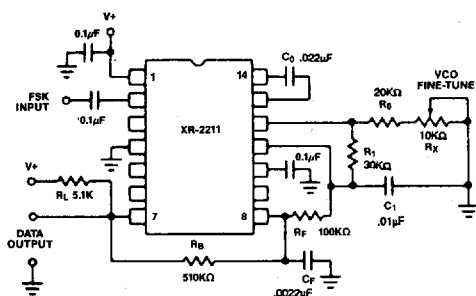

Figure 9. Circuit Connection for FSK Decoding of Caller Identification Signals (Bell 202 Format)
**VCO Frequency Adjustment:** VCO can be fine-tuned by connecting a potentiometer,  $R_X$ , in series with  $R_0$  at Pin 12 (see Figure 9).
Figure 9 shows the basic circuit connection for FSK decoding. With reference to Figures 2 and 9, the functions of external components are defined as follows:  $R_0$  and  $C_0$  set the PLL center frequency,  $R_1$  sets the system bandwidth, and  $C_1$  sets the loop filter time constant and the loop damping factor.  $C_F$  and  $R_F$  form a one-pole post-detection filter for the FSK data output. The resistor  $R_B$  ( $= 510K\Omega$ ) from Pin 7 to Pin 8 introduces positive feedback across the FSK comparator to facilitate rapid transition between output logic states. Recommended component values for some of the most commonly used FSK bands are given in Table 1.
The circuit of Figure 9 can be tailored for any FSK decoding application by the choice of five key circuit components:  $R_0$ ,  $R_1$ ,  $C_0$ ,  $C_1$  and  $C_F$ . For a given set of FSK mark and space frequencies,  $f_1$  and  $f_2$ , these parameters can be calculated as follows:
Note: All calculated component values except  $R_0$  can be rounded to the nearest standard value, and  $R_0$  can be varied to fine-tune center frequency, through a series potentiometer,  $R_X$ . (See Figure 9.)